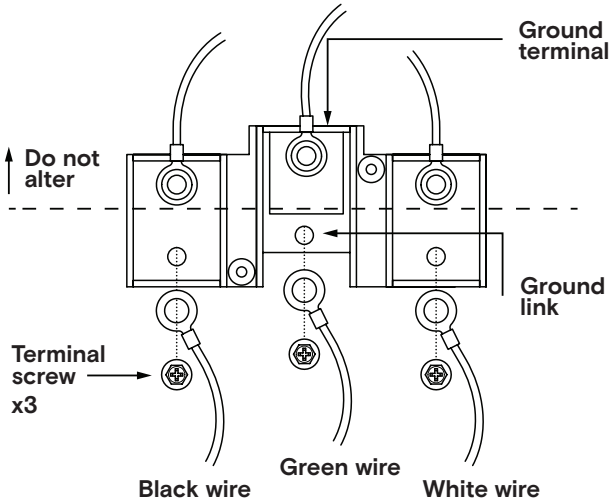

Figure.19
- › **STEP 1:** Remove the 3 screws holding the ring terminals. Keep the screws in a safe place for reinstallation. [Figure.19]